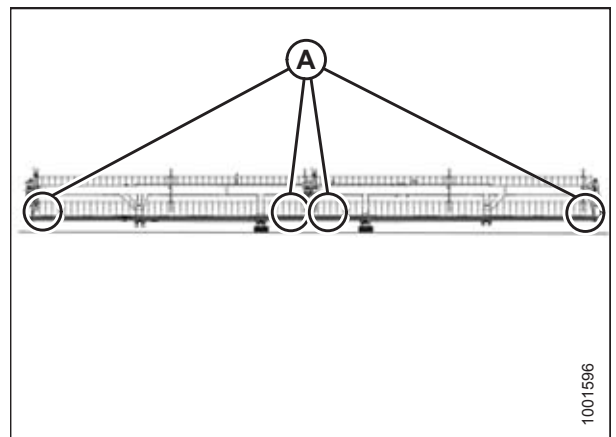

Figure 5.268: Double Reel Measurement Locations
- Figure 5.268, page 545 – double reel